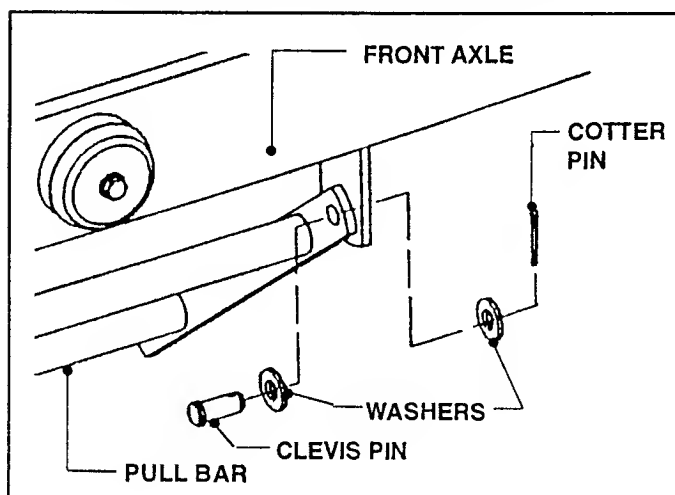

FIGURE 8.14
F. Disconnect Pull Bar from Front Axle by removing Clevis Pins and Cotter Pins. See Figure 8.14.